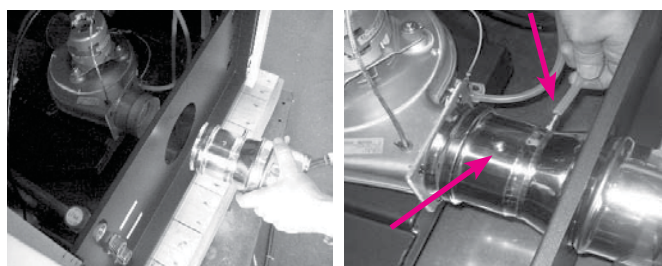

fig. 6.3
- Remove the back panel by unscrewing the six screws that fasten it to the boiler, and insert the provided flue gas attachment to the mouth of the smoke extraction fan securing with the screw (Fig. 6.3).